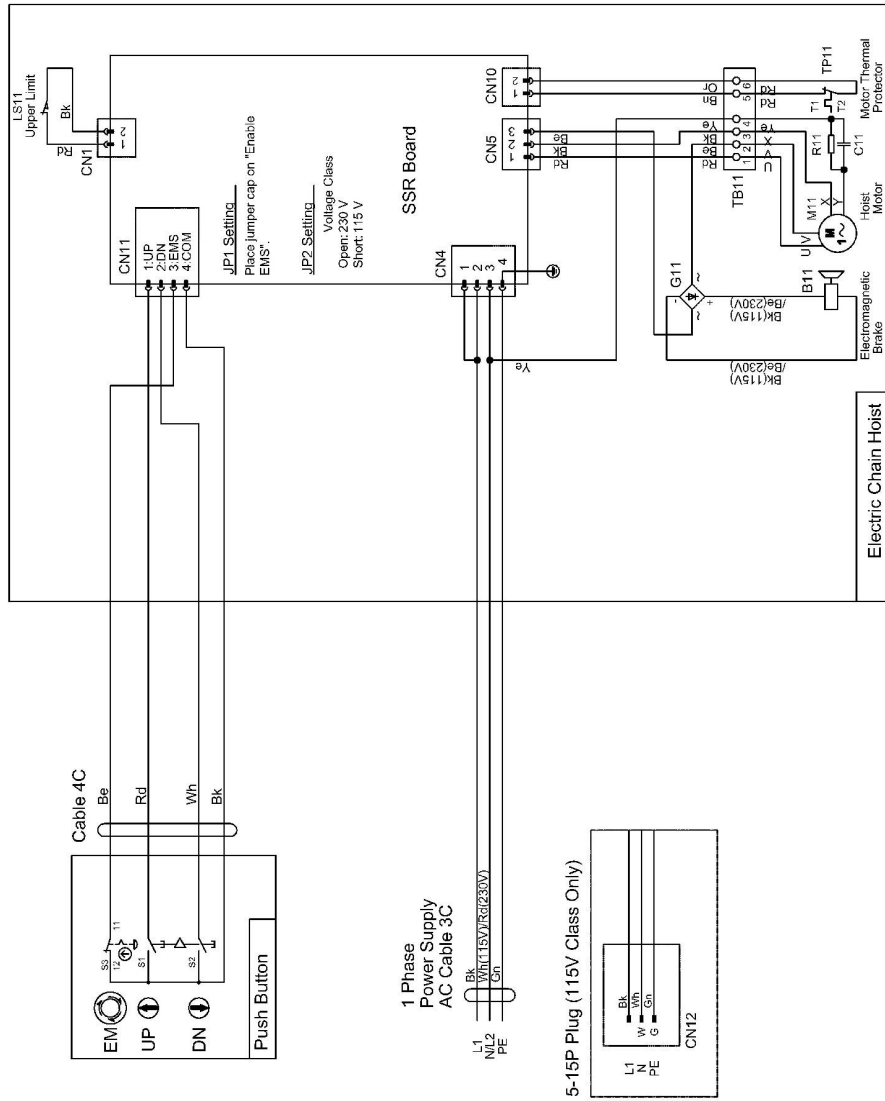

Figure 3-9 Single-Phase SEM Wiring Diagram
- 3.5.8 The Wiring Diagram is accessible from the QR code label located as shown in **Figure 3-7**. Wiring Diagram for EM (**Figure 3-8**) or SEM (**Figure 3-9**) will be displayed.